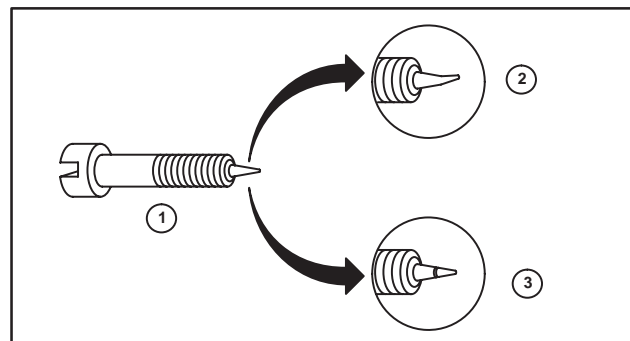

Fig. 66
1. Remove needle valve (1) to inspect.
2. Replace needle valve if needle is bent (2), grooved (3), or broken, Fig. 66.
3. If carburetor is gummy or dirty, remove seat to allow better access to metering holes (1).
After cleaning, inspect for wear, damage, cracks, or plugged openings. Replace body if any of above conditions exist. Use only compressed air to clear plugged openings. Inspect idle mixture needle for bent needle point or a groove in tip of needle, Fig. 66. Replace if bent or grooved. On Pulsa-Jet low emission carburetors, inspect pilot jet for dirt and sealing in seat area. Do not use drills or wire when checking pilot jet.